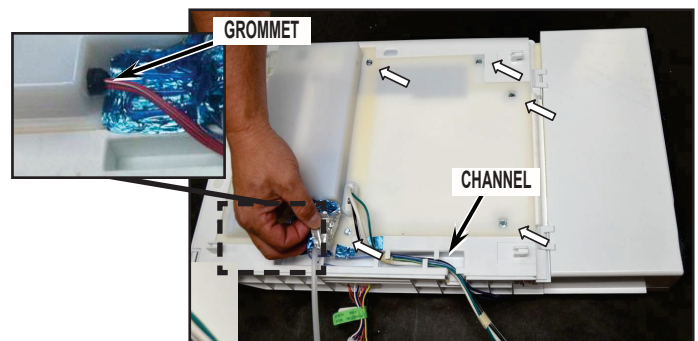

FIGURE 33
6. Remove foil fill tube heater from the ice maker fill tube on the ice box. Remove all wires from channel on ice box assembly. See *Figure 33*.
- Use a straight blade screw driver to remove 5, 1/4" screws securing the ice box cover to the ice box assembly. See *Figure 33*.